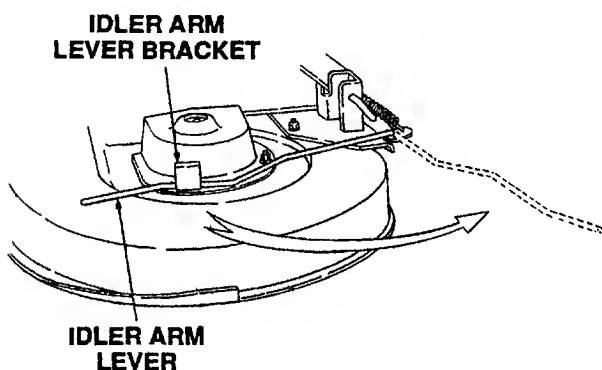

Figure 36
4. Lower the tractor implement lift handle to its lowest setting. Disengage the deck idler arm lever from its stop bracket and then release the spring tension until the lever is at the outside of the deck (Refer to Figure 36).